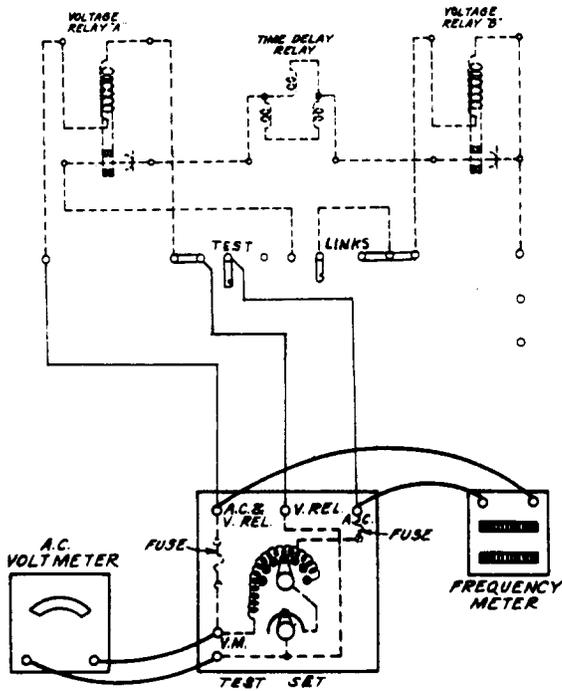

Fig. 6 - Test Connections for Relay "A" Without Transformer
(1) Connections to the master switch should be changed only after the line service switch directly ahead of the master switch has been opened to remove the line voltage from the switch. Connections should be made as shown in schematic form in Fig. 6, 7, 8, and 9. After connections are completed, energy for testing the voltage relays may be obtained by closing the line service switch.
*Note:* In Fig. 6, 7, 8, and 9, frequency meter may be omitted since a check of frequency is seldom required.
(2) To adjust the upper range, slowly raise the voltage on the solenoid coil by turning the handle in the center of the panel on the test set in a clockwise direction. Smaller increments may be obtained by turning the small handle near the bottom edge of the panel. If the sudden upward movement of the armature occurs below the upper opening range, loosen the set screw at the top of the solenoid coil and slightly raise the top magnet. If the sudden upward movement occurs above the upper opening range, slightly lower the top magnet. Tighten the set screw. If the sudden upward movement of the armature cannot be obtained within the desired limits by adjusting the top magnet, the relay should be replaced. Set the contact arm adjusting screw so that the striker on the armature guide does not engage it until after the armature has started its sudden upward movement. Check readings should be taken on the operating voltage and its value noted.
(3) After the upper opening range is adjusted and the contacts open, adjust the upper closing range by slowly decreasing the voltage on the solenoid coil by turning the handles counterclockwise. If the sudden downward movement of the armature occurs above the upper closing range (or less than 3 volts be-
(1) Temperature measurements should be taken only after the master switch has been operated for at least two hours. The cover of the enclosing cabinet should be in place during this period, but the case over the voltage and time delay relays may be removed. Temperature measurements should be made with the switch connected to the power service.
(2) Measure the temperature of the coils and contacts by holding the bulb of a centigrade thermometer against the surface of the part being measured and observing the highest temperature indicated. That part of the bulb not in contact with the part whose temperature is being measured should be covered with a felt pad or equivalent material. The minimum voltage on the voltage relay coils, as covered in the requirements, may be obtained by connecting the test set as shown in Figs. 6, 7, 8 and 9.